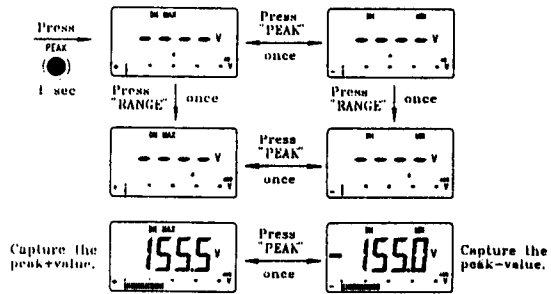

Figure 16. 1 ms Peak Hold Display.
- 3) The display shows "DH MAX" to indicate the PEAK + and shows "DII MIN" to indicate the PEAK -. See Figure 16. If the reading is "OL", then you can push RANGE button momentarily to change measuring range and re-start the PEAK+ or PEAK- measurement after setting the peak mode.